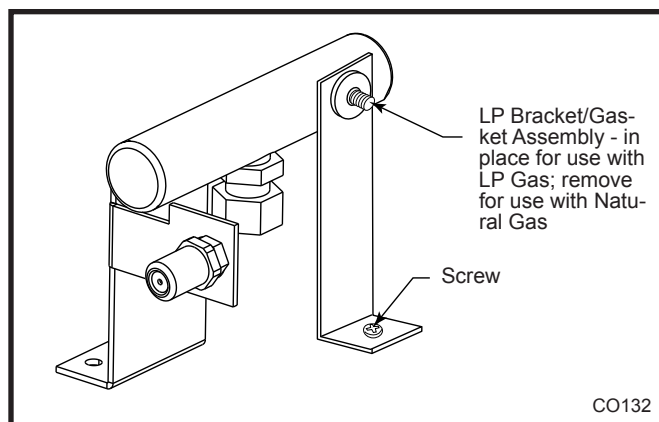

Fig. 79 LP bracket/gasket assembly.
4. Converting LP to NG, remove bracket/gasket assembly by unfastening the screw which secures the bracket to the burner tray base. Discard bracket and refasten the screw into the hole. (Fig. 79)
Converting NG to LP, assemble the bracket/gasket assembly to the burner tray assembly base by unfastening the screw on the tray to the right side of the orifice. Slide the bracket/gasket assembly over the fitting on the manifold toward the back with the gasket to the right. Secure the bracket/gasket assembly using the screw removed earlier. (Fig. 79)